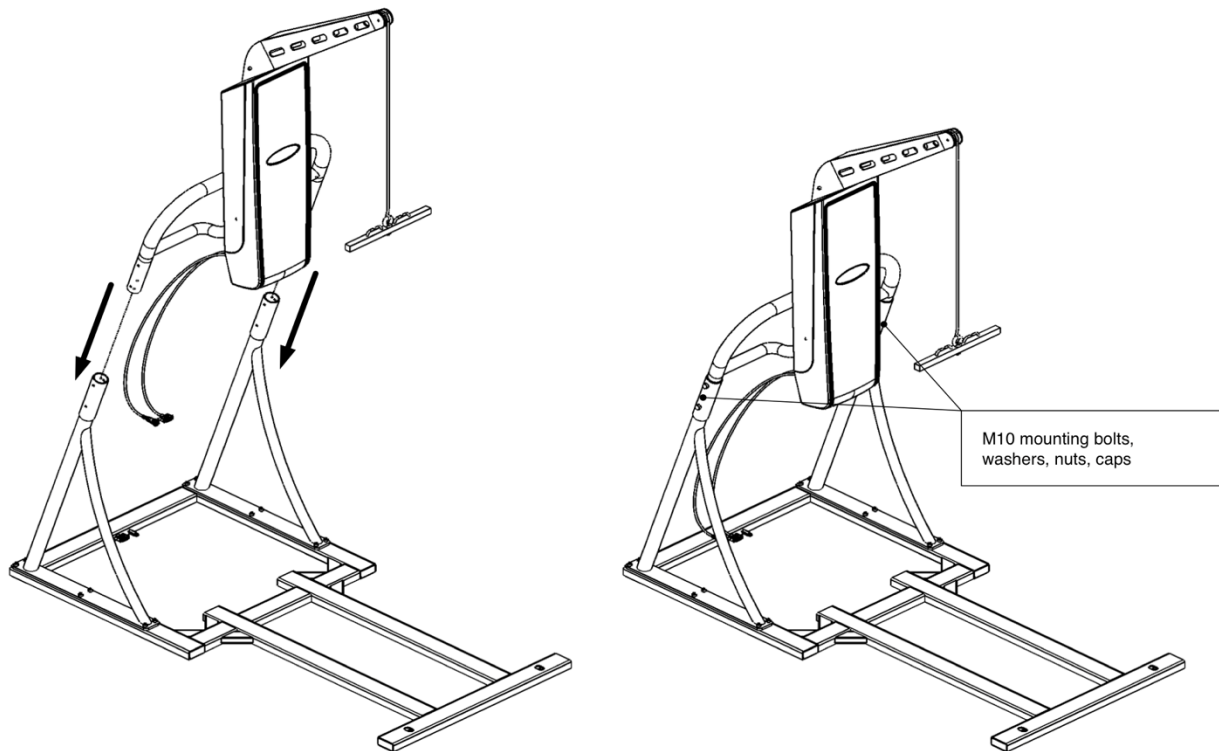

Figure 19 – Stage 2 of the body weight support system disassembly
- Install the main framework of the body weight support system, item [Ошибка! Источник ссылки не найден..1] onto the body weight support system racks, item [Ошибка! Источник ссылки не найден..2], fastened on the base, item [Ошибка! Источник ссылки не найден..3] by placing the main framework in the corresponding holes in the racks, while aligning the mounting holes in the main framework and the racks, as shown in Figure 19. Secure the main framework using the bolts, item [Ошибка! Источник ссылки не найден..21] with washers, item [Ошибка! Источник ссылки не найден..22] and nuts, item [Ошибка! Источник ссылки не найден..23] by means of 17 mm wrench.